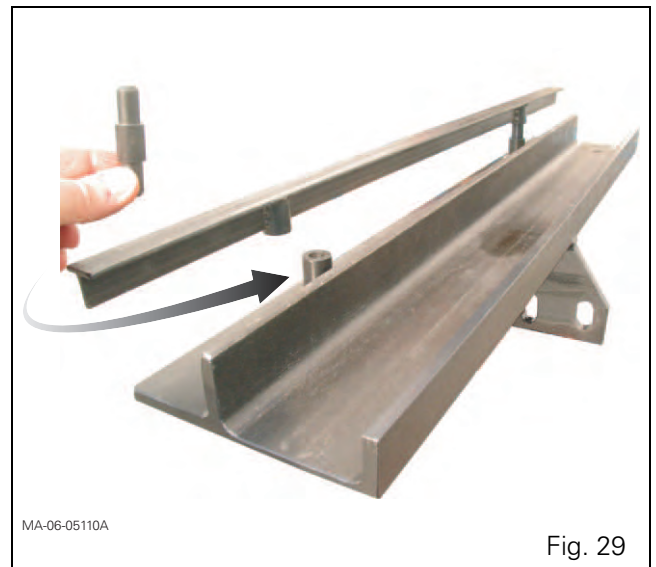

Fig. 29
- 3378502M11: Rods (L = 59 mm) and tool for removing and refitting the ring gear/differential assembly (Fig. 29)